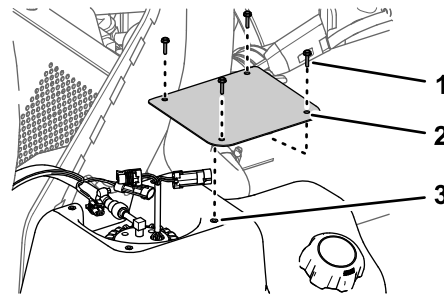

Figure 89
1. Assemble the cover to the tank (Figure 89) with the 4 screws (#10 x 3/4 inch) that you removed in step 2 of Removing the Fuel Pump Cover (page 62).